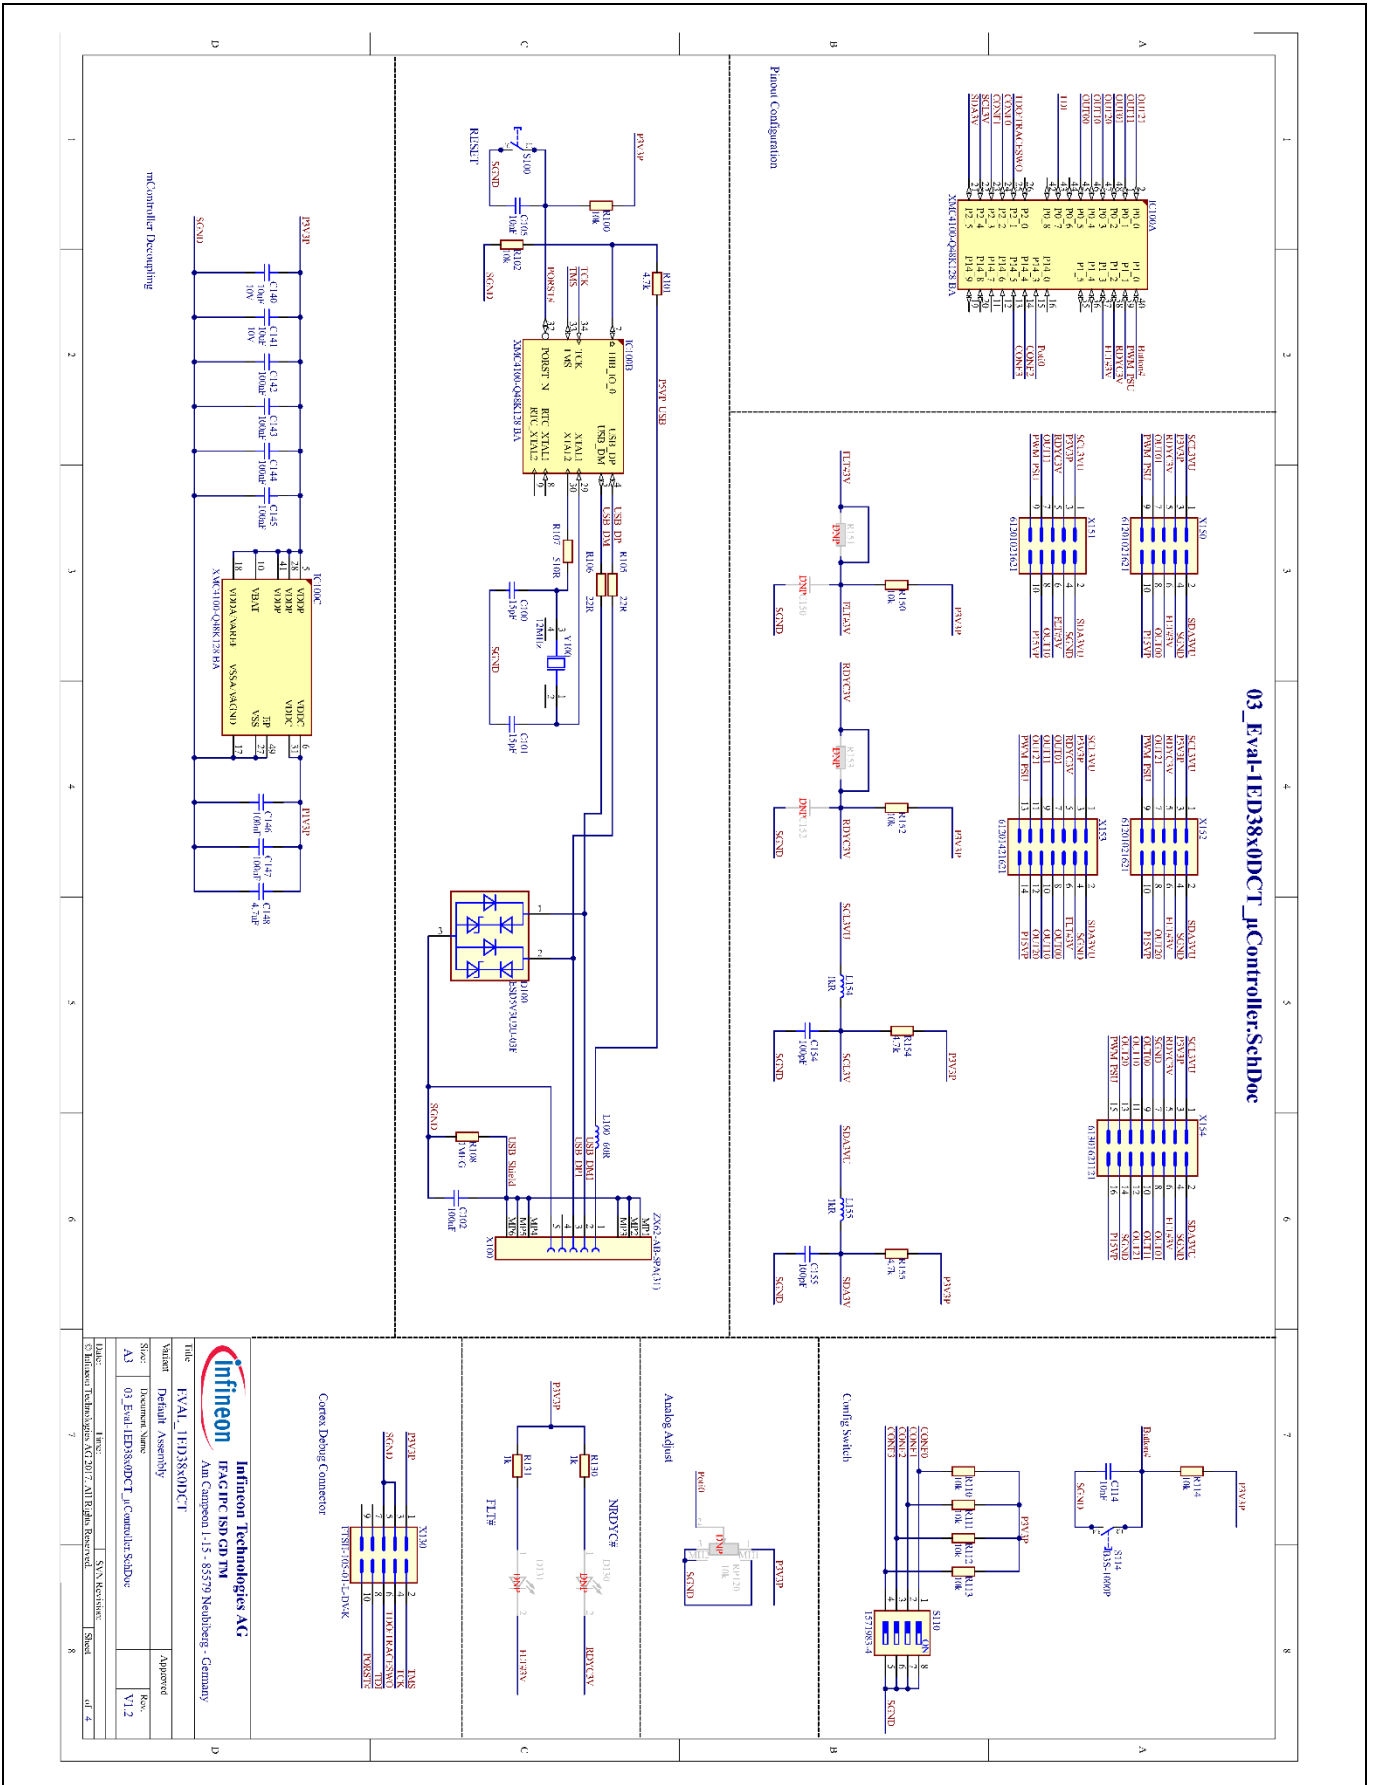

Figure 11 Schematic of microcontroller IC and surrounding circuit
- Microcontroller and surrounding circuits (Figure 11)